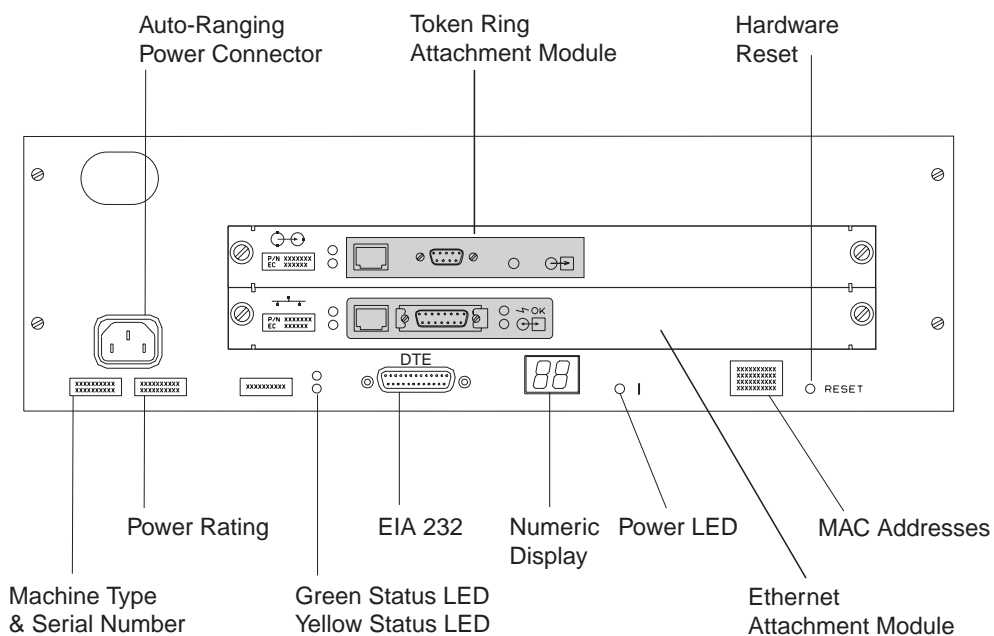

Figure 2-11. The Ethernet Bridge Front Panel
Notice the icon in the upper left-hand corner on the front. (See the matching symbol in the figures below.) Verify that the **token-ring module** is installed in the **upper slot** and the **Ethernet** in the **lower slot** of the ethernet bridge, refer to Figure 2-11 on page 2-10.
- 1) \_\_\_\_ Locate the first MAC address on top of the label on the front of the ethernet bridge (to the left of the reset button). See Figure 2-11 on page 2-10 for a view of the ethernet bridge front panel.
- c) \_\_\_\_ Locate the MAC addresses on the label on the front of the ethernet bridge (to the left of the reset button). See Figure 2-11 on page 2-10 for a view of the ethernet bridge front panel. **Enter the top two MAC addresses** recorded on the label. , then press **enter**.